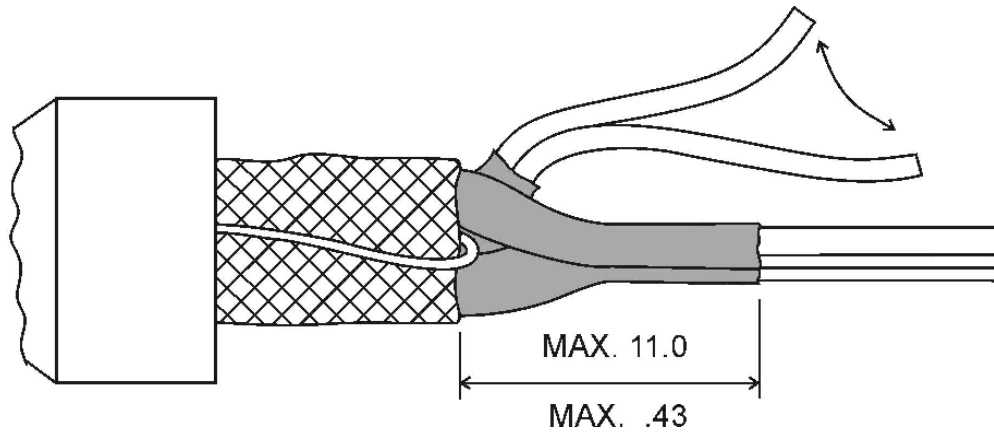

FIGURE 10
- G. For separating a pair removes the shield foil from this pair outside the outer jacket. Orientate the pairs in the desired sequence. Reduce the foil of the other pairs. For best results in low crosstalk take care to keep the foil so long as possible. (Refer to figure 10). The most important pair is the one between the separated conductors.